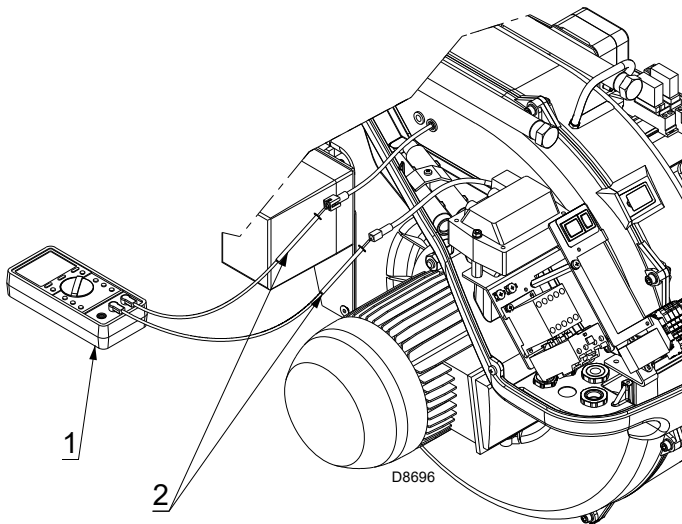

Fig. 35
However, if it is necessary to measure the ionisation current, disconnect the plug-socket (2)(Fig. 35) on the ionisation probe cable and insert a direct current microammeter (1)(Fig. 35) with a base scale of 100 μA .